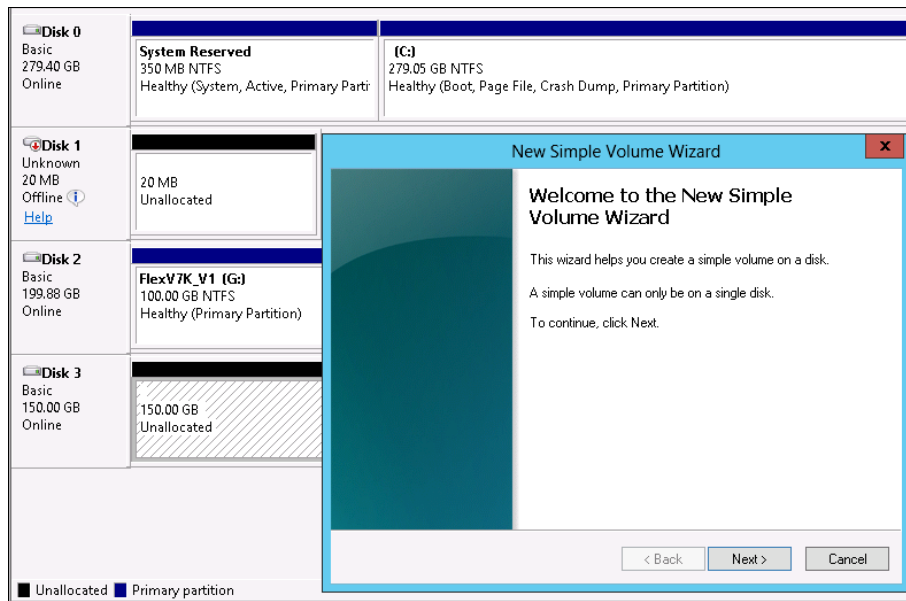

Figure 12-11 New Simple Volume Wizard Welcome
11. When the volume type has been selected, the Simple Volume Wizard will start as shown in Figure 12-11.